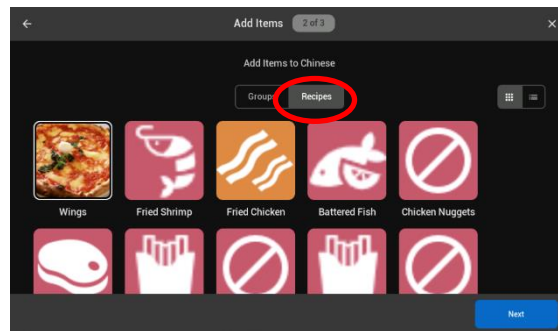

**Figure 40 – Remove / Don't Remove Group**
- Click  button to remove **Figure 40**